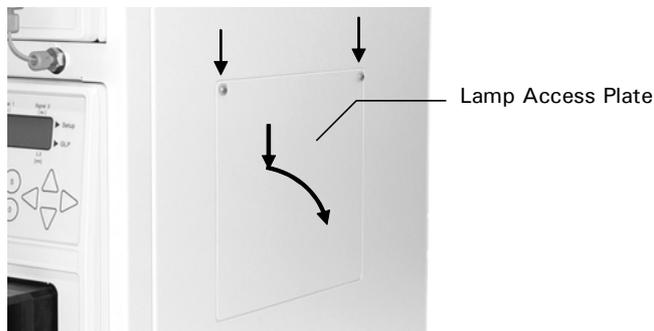

FIGURE 5-17. Lamp Access Plate
- a) Remove the two screws of the Lamp Access Plate of the UltiMate system (FIGURE 5-17).